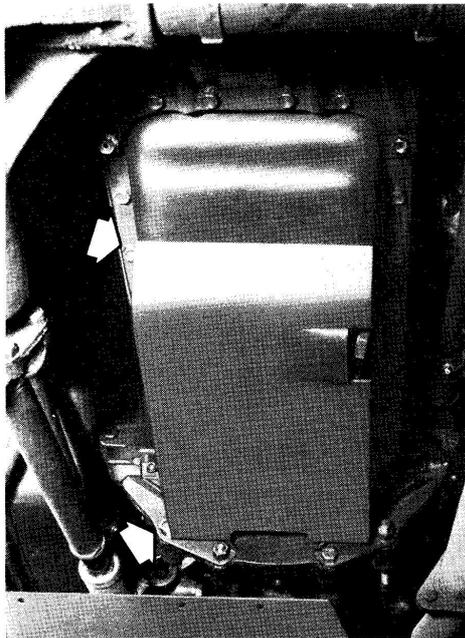

Fig. 20. Bolts to be removed from clutch housing and oil pan.
- b. Remove one bolt from the clutch housing and one from the oil pan as shown in Fig. 20.